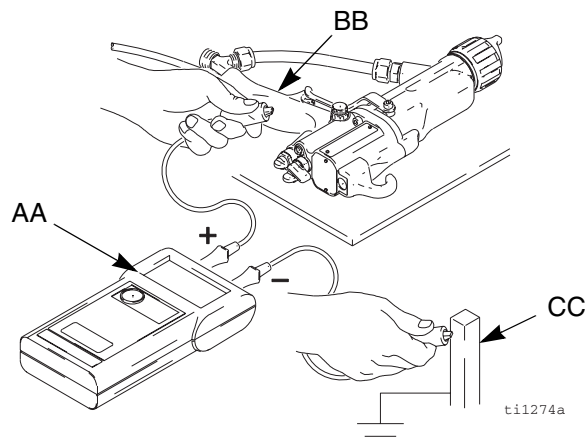

Fig. 3. Check Gun Grounding
Megohmmeter Part No. 241079 (AA-see FIG. 3.) is not approved for use in a hazardous area. To reduce the risk of sparking, do not use the megohmmeter to check electrical grounding unless:
4. Make sure the grounded air hose (R) is connected and the hose ground wire is connected to a true earth ground.
5. Measure the resistance between the gun handle (BB) and a true earth ground (CC). Use an applied voltage of 500 minimum to 1000 volts maximum. The resistance should not exceed 1 megohm. See FIG. 3..